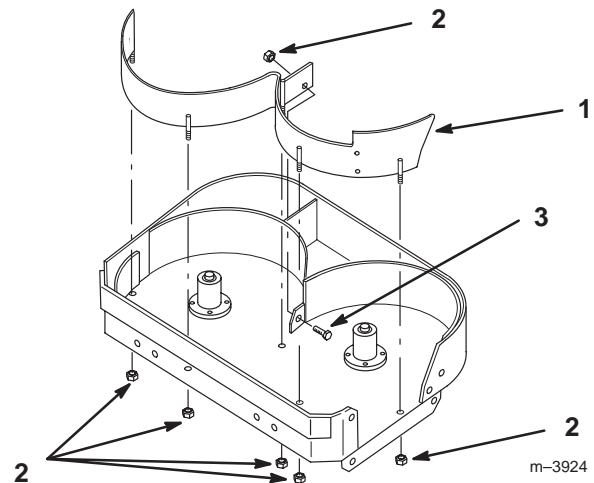

Figure 2
1. Remove the 5 carriage bolts (5/16 x 5/8 inch) and locknuts (3/8 inch) from the holes where the baffles will be installed (Fig. 2).
3. Secure the studs to top of mower with 5 flange nuts (5/16 inch) and to the back baffle with a bolt (5/16 x 5/8 inch) and a flange nut (5/16 inch) (Fig. 2).
3. Secure the blocker plate to the front of mower with a bolt (3/8 x 1 inch) and a flange nut (3/8 inch) (Fig. 2).
4. Secure the blocker to the front baffle with 2 bolts (1/4 x 5/8 inch) and 2 flange nuts (1/4 inch) (Fig. 2).